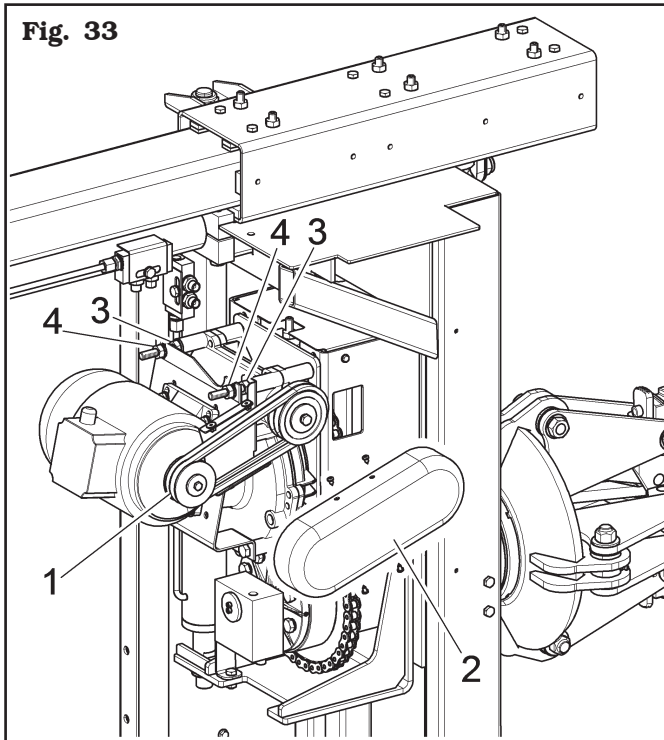

Fig. 33
A. Check belt tensioning (Fig. 33 ref. 1):
- Remove the protection guard (Fig. 33 ref. 2) with a screwdriver.
- Stretch the belt (Fig. 33 ref. 1) using the bolt (Fig. 33 ref. 3) after the nuts (Fig. 33 ref. 4); have been slackened.
- Tighten the fixing nuts (Fig. 33 ref. 4) after the adjustment operations, then assemble the protection guard (Fig. 33 ref. 2) again.